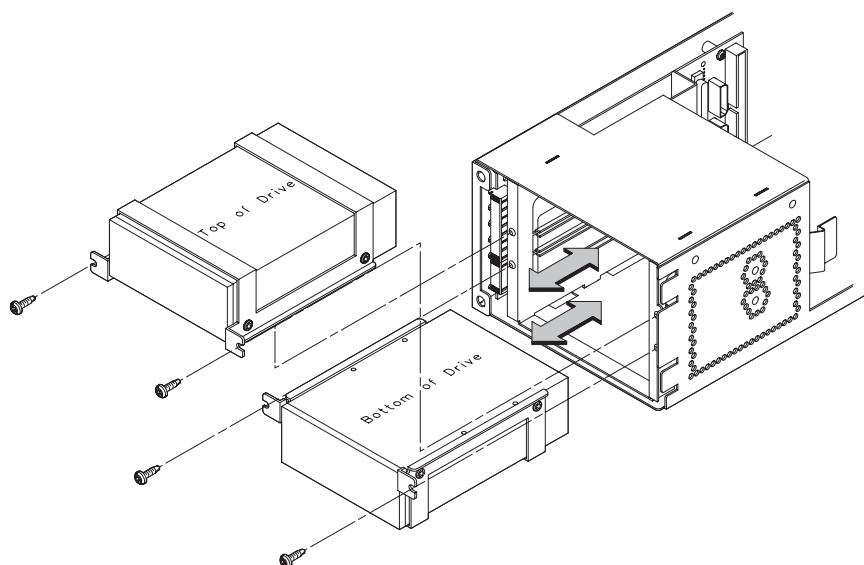

Figure 5–51. Placing Hard Drives in Storage Drawer
3. With the disk mounting bracket between the guides on each side of the Storage Assembly, slide the disk into the Storage Assembly, securing it to the drawer with two side screws. See Figure 5–51.